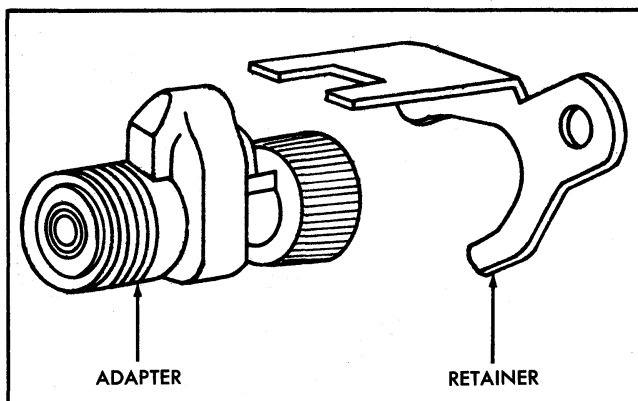

Fig. 7B-39 Speedometer Driven Gear Adapter and Retainer - Trailer Provision
INSPECTION AND REPAIRS (Fig. 7B-40)
1. Assemble speedometer gear and sleeve assembly (Fig. 7B-40). Driven gear shaft oil seal lip must face driven gear.